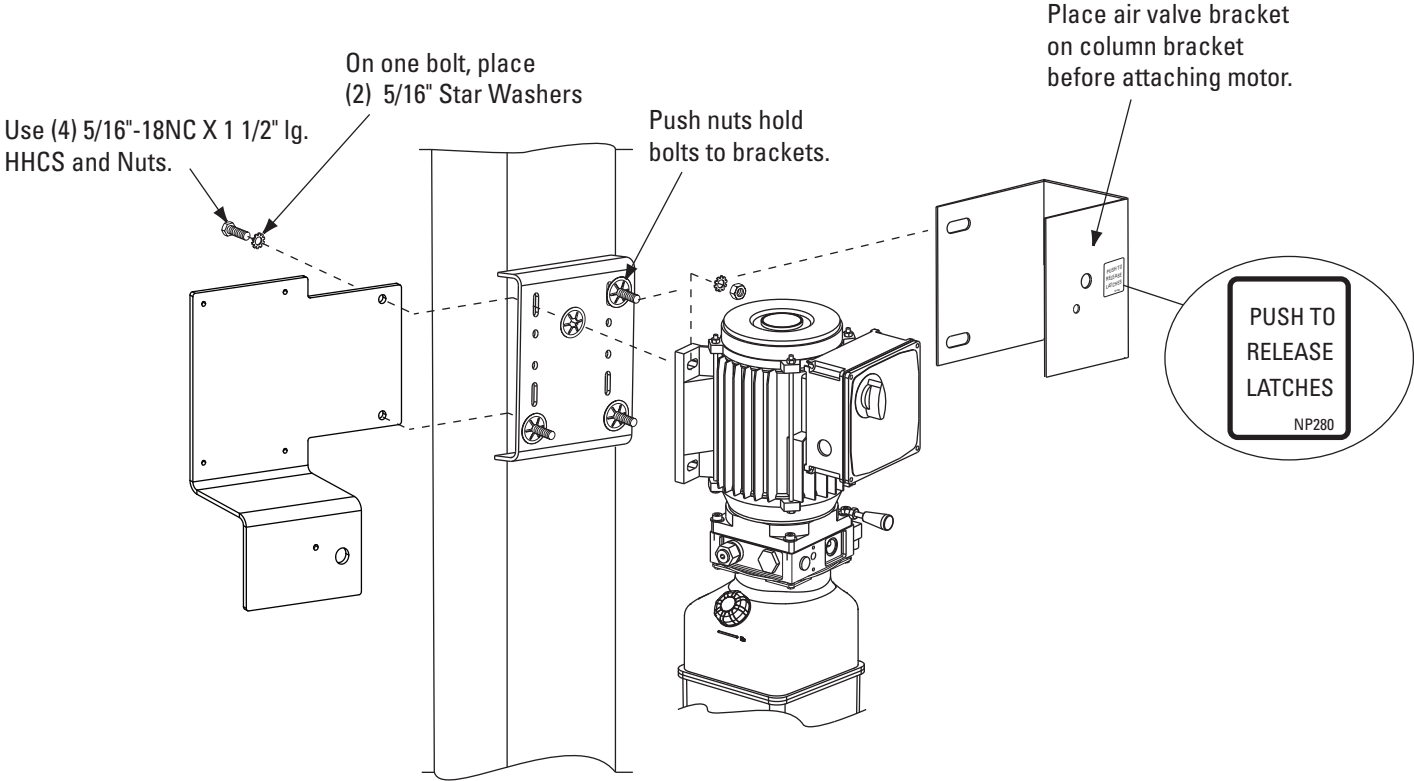

Fig. 16
- A. Align Air Valve Bracket with holes in right side of column bracket, Fig. 16.
- B. Put four  $\frac{5}{16}$ " x  $1\frac{1}{2}$ " lg. hex. bolts through holes in column bracket, using push-nuts to hold in place. When using 3Ø Control Box with push button, position mounting bracket to the rear of the power unit bracket and attach using two (2) of the  $\frac{5}{16}$ " - 18NC x  $1\frac{1}{2}$ " HHCS, Fig. 16.
- Attach enclosed NP280 decal ("PUSH TO RELEASE LATCHES") below button on air valve bracket, Fig. 16.